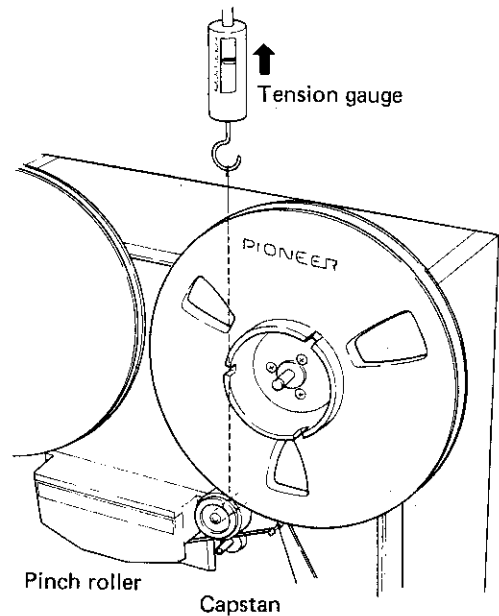

Fig. 11
6. With tape speed at 19 cm/s, pull pinch roller shaft with tension gauge (Fig. 11) and confirm that tape motion stops in the range of 1.7 kg—2 kg.